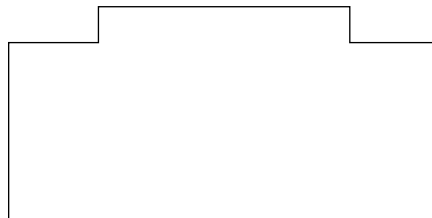
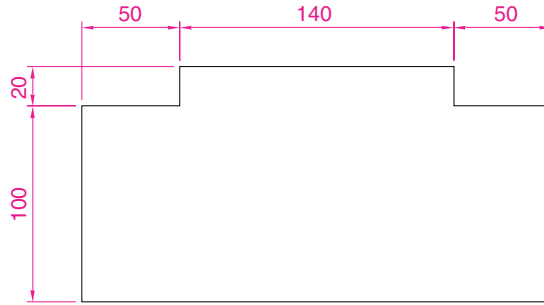

Fig. 6.10 First example – outline for dimensions
Fig. 6.11 First example – horizontal and vertical dimensions
First example – hor and ve (Horizontal and vertical) – Fig. 6.11
1. Construct the outline in Fig. 6.10 using the **Line** tool. Its dimensions are shown in Fig. 6.11.
The result is shown in Fig. 6.11.